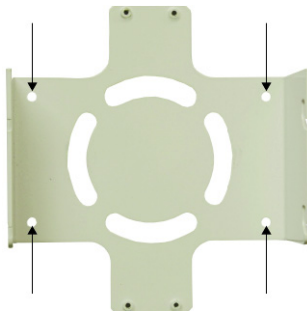

Figure 1: Bracket Mounting Holes
1. Attached the bracket to either the wall or ceiling using the four #10/32 lag bolts. See Figure 1.